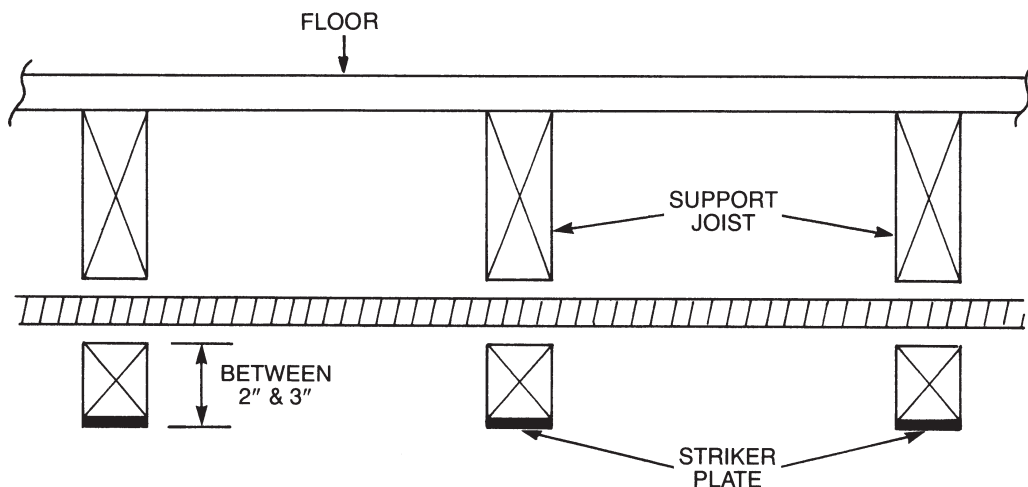

Figure: 4-20
b. Shielding is required at support points and points of penetration located 2 to 3 inches away from any edge of the stud, joist plate, etc. A quarter striker plate should be used in these locations. (See **Figure 4-20**).